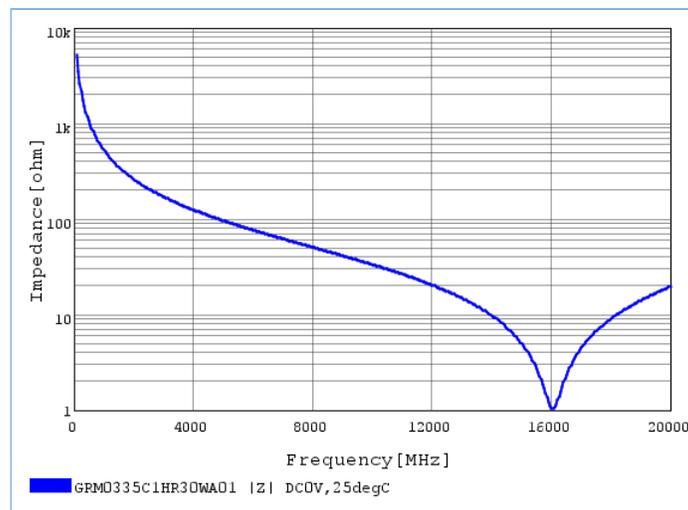

Figure 3-22 Impedance/frequency characteristics of GRM0335C1HR30WA01
- For GR5331/GR5330, using a 0.3 pF capacitor (C5) in the RF matching circuit can effectively suppress seventh-order harmonics. Place the capacitor as close to the RF_TX pin as possible. GRM0335C1HR30WA01 is recommended, which features the lowest impedance around the seventh-order harmonics, as shown in Figure 3-22.